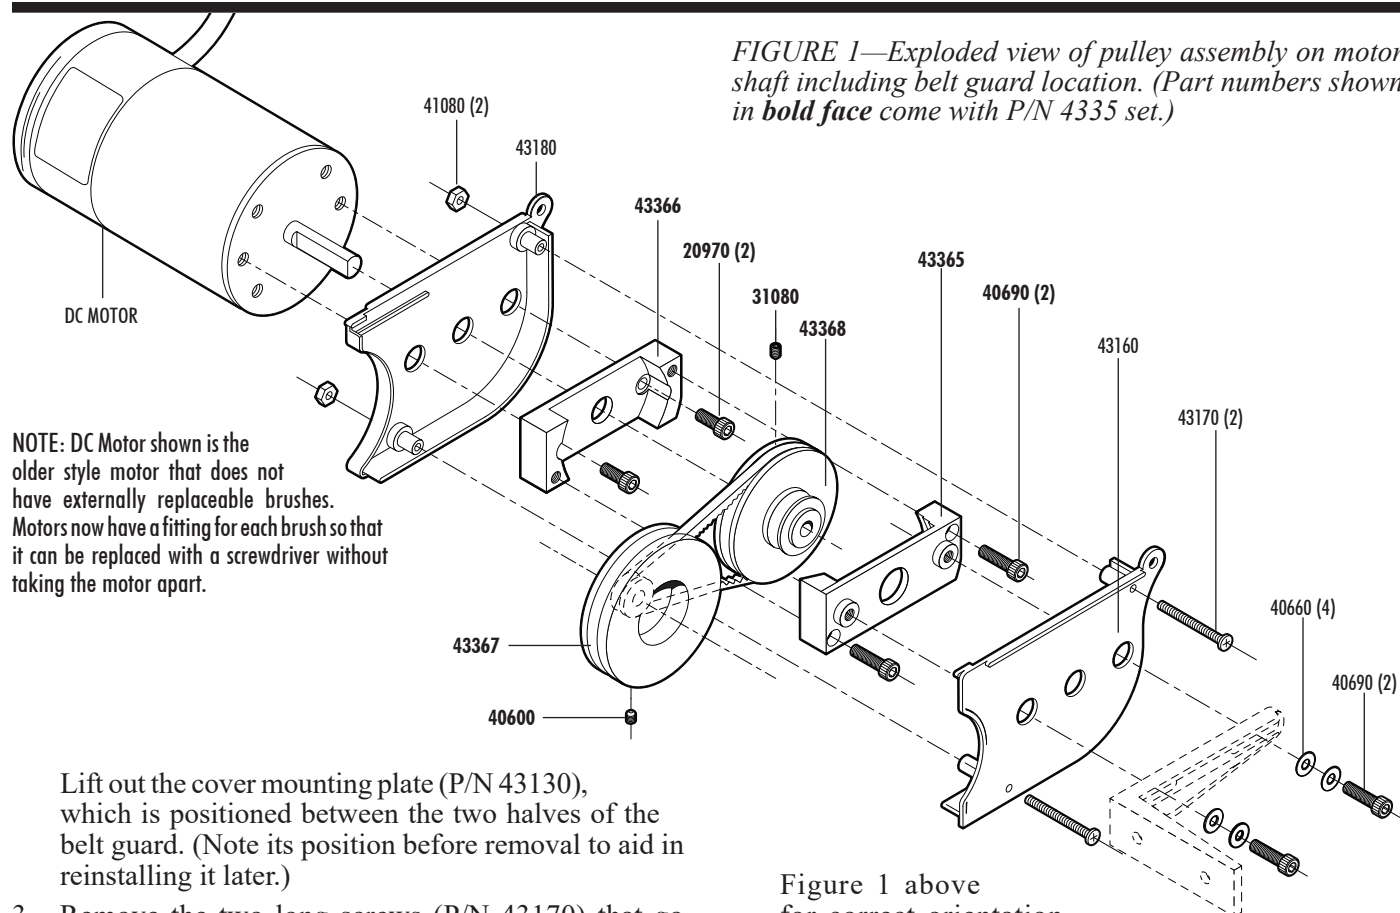

FIGURE 1—Exploded view of pulley assembly on motor shaft including belt guard location. (Part numbers shown in **bold face** come with P/N 4335 set.)
Figure 1 above for correct orientation of the pulley. NOTE: The pulley position can be readjusted and the setscrew can be firmly tightened in place after the motor is mounted to the headstock to assure proper belt alignment.
6. Put the new spindle drive pulley (P/N 43367) onto the headstock spindle shaft and secure it by tightening the set screw located in the groove of the smaller pulley. See Figure 1 for orientation.
FIGURE 2 (Left)—This exploded view shows the standard pulley arrangement as it comes with the regular motor and headstock. It can be used to help you when removing the standard parts for installation of the 10,000 RPM pulley set. See Figure 1 for the parts that are different in that installation.